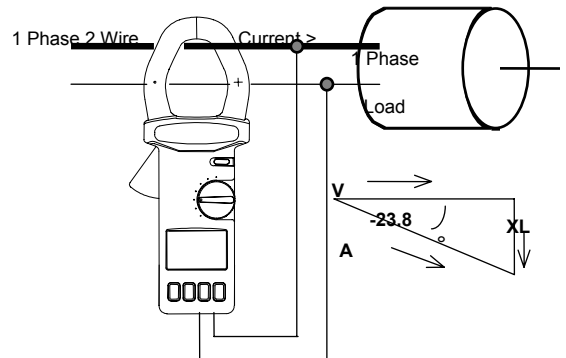

Figure 5
6. Clamp on to the wire where the V (red) terminal is connected (see Fig.5).